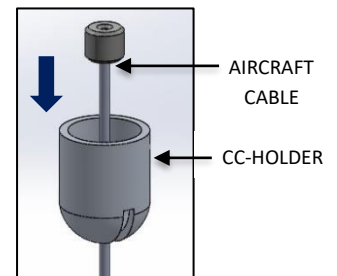

FIG. 10 - SS ROPE CABLE
- Feed all the AIRCRAFT CABLE through the CC-HOLDER. Once fed all the way through, screw CC-BASE and CC-HOLDER together as shown in FIG. 10.